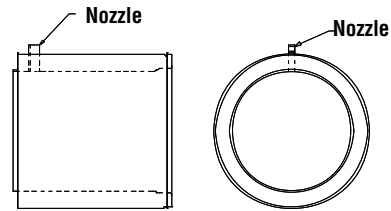

Figure 69 - Nozzle Section
2. The nozzle section allows a spray head or nipple to be attached to the duct through a 1" (25) NPT coupling attached to the inner flue and when the chimney section is in a vertical orientation, the nozzle may be located at the most convenient place. See **Figure 69**.